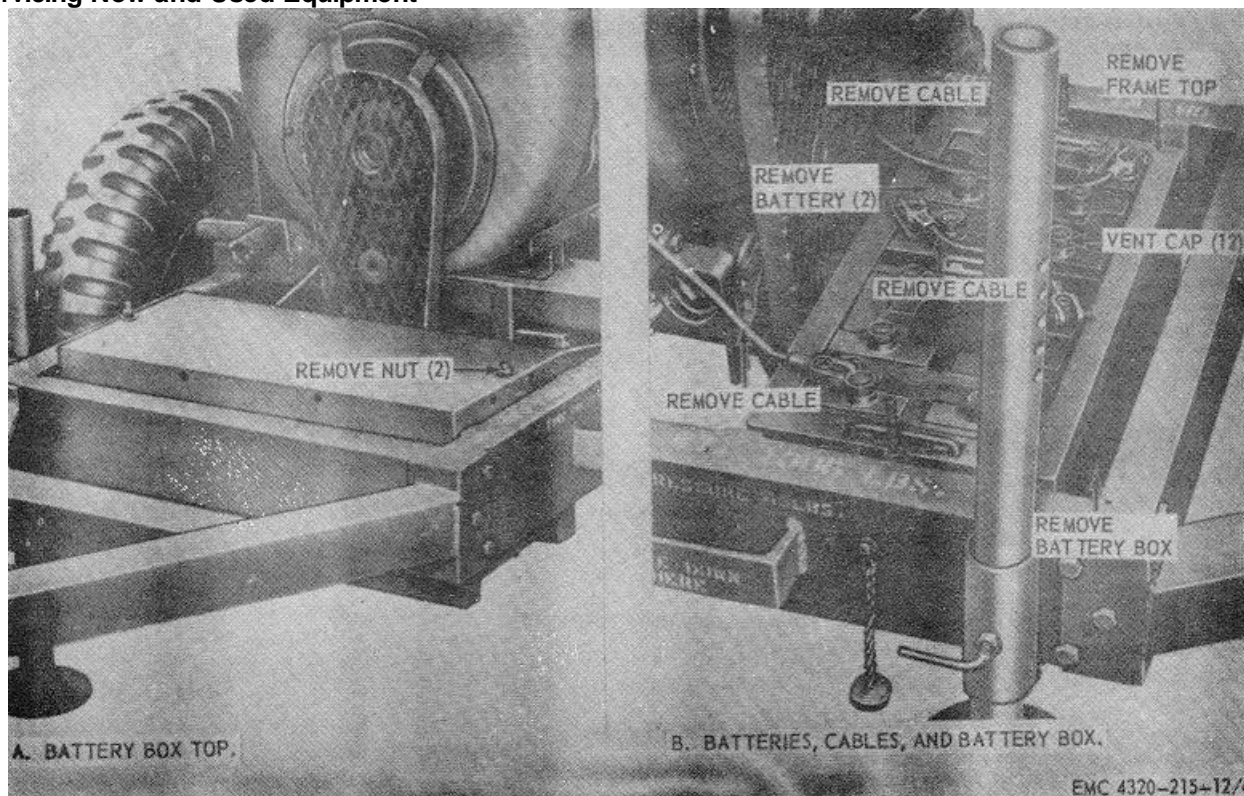

Figure 4. Batteries, cables, and battery box, removal and installation.
(1) Refer to paragraph 10 and fill the batteries with electrolyte.
(2) Remove and install the batteries and connect the cables as shown by figure 4.